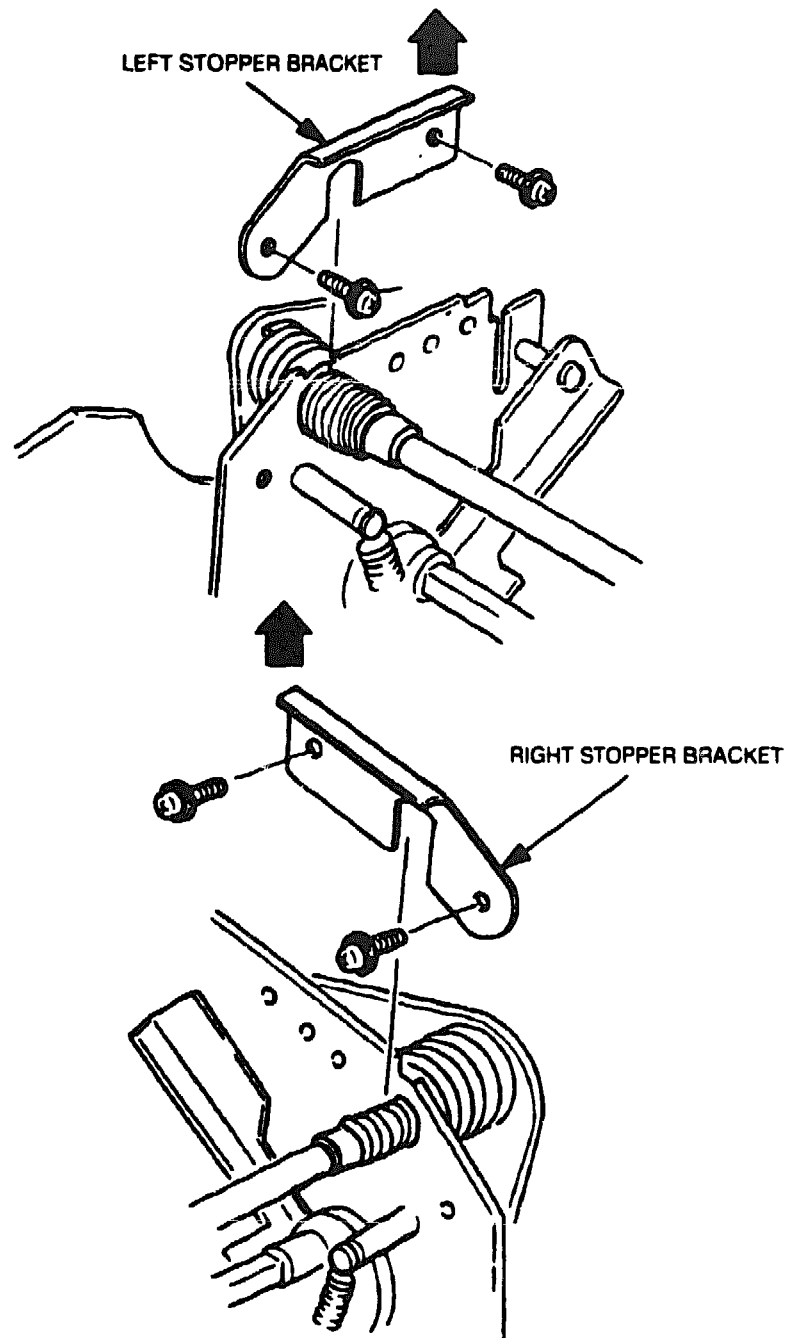

Figure 6-57 Stopper Brackets
7. Remove the two screws that secure the stopper bracket on each lower side plate (see Figure 6-57). Then lift and remove the stopper brackets.